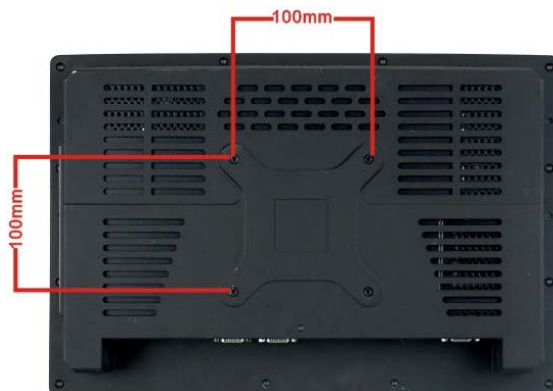

Figure 3-16: Arm Mounting Retention Screw Holes
Step 3: Align the retention screw holes on the mounting arm interface with those in the flat panel PC. The POC-17i/19i Series arm mount retention screw holes are shown in **Figure 3-16**.